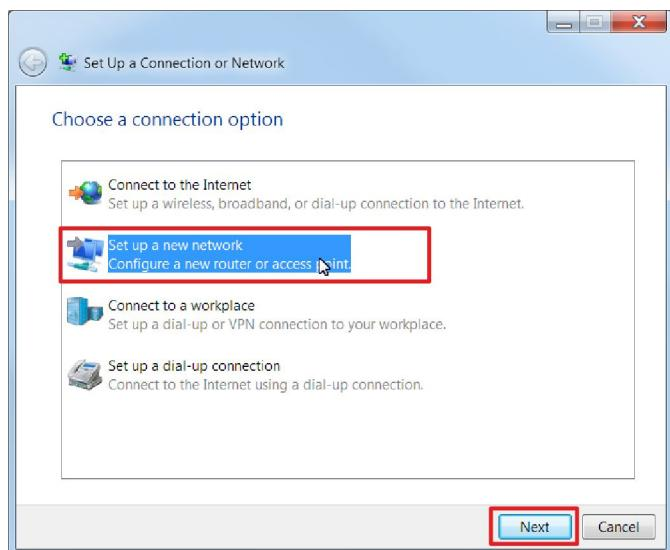

Fig. 43: Setting up a new network
- ▶ Select 'Set up a new network' (Fig. 43), then click 'Next'.